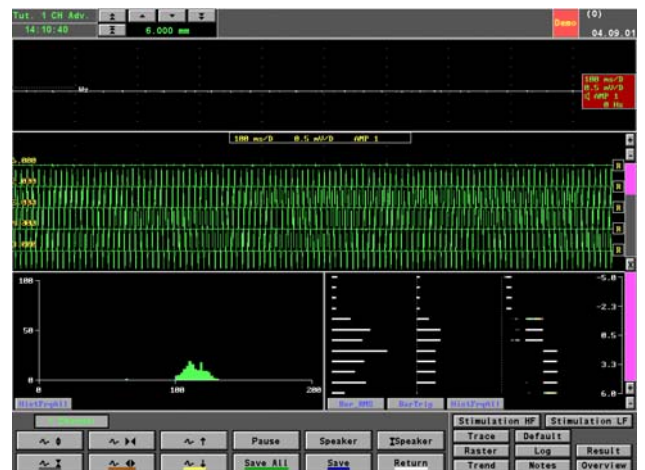

Figure 89 The Electrode Has Passed the Target by 6.000mm
- Alter the distance to the target from 5.000 to 6.000mm, see Figure 89 below: